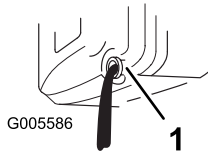

Figure 19
6. Tip the mower onto its **left** side, allowing the oil to drain into the drain pan (Figure 19).